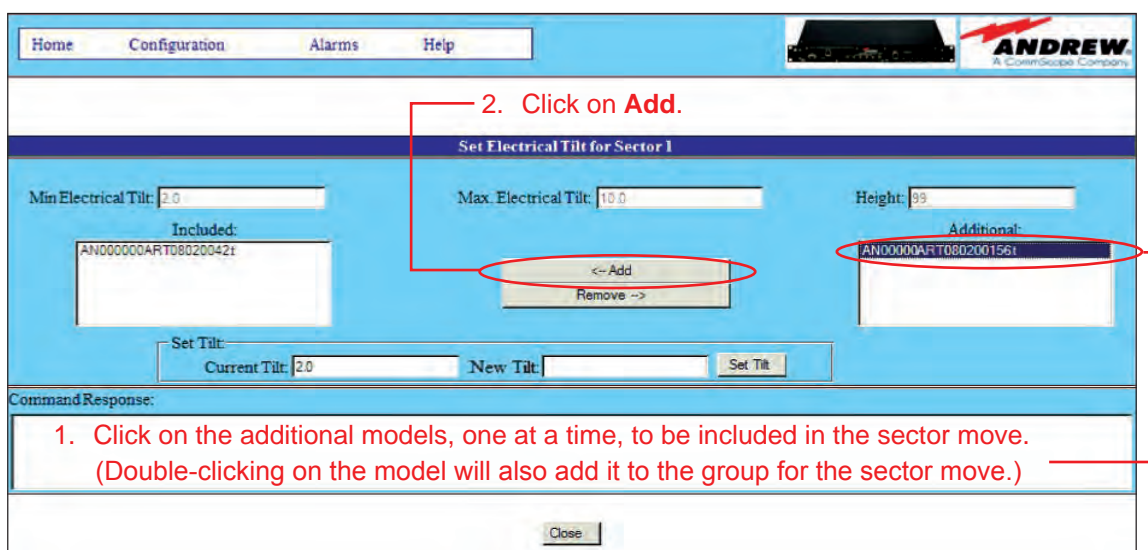

Figure 22-2. Adding Models To Be Included In The Sector Move.
Notice that the device that was selected to be included in the sector move is highlighted and displayed in the **Included** box. This box displays a list of all devices that will be included in the sector move. Initially, this box contains only the antenna that was selected from the controller's main interface screen. The minimum, maximum, and current tilt for this device is displayed on this screen (Figure 22-2).
3. Select the device, and click on **Add** (Figure 22-2). (Alternately, double-click on the device from the **Additional** box to move the device to the **Included** box.)